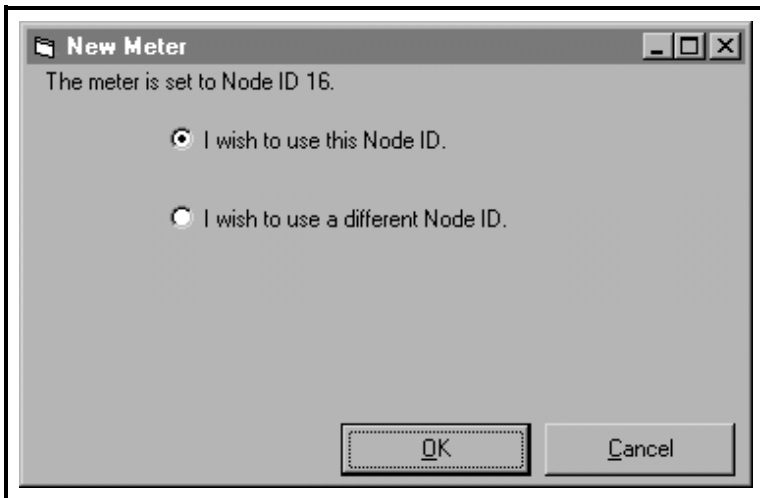

Figure 4-11: Node ID Confirmation
7. After responding to the previous dialog box, a dialog box showing the Node ID (16 in this example) of the meter appears (see Figure 4-11 below). Select the “*I wish to use this Node ID*” radio button and then click on the [OK] option button.